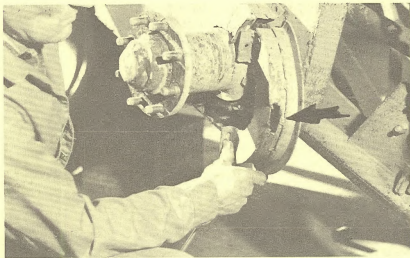

Figure 17. Hole cut in bottom of chain guard for self cleaning
9. Cut a hole in the bottom of the chain guards to let dirt and brush work out and to let snow and water out (Figure 17). This presents trouble with this freezing and breaking the chain when starting on cold mornings.